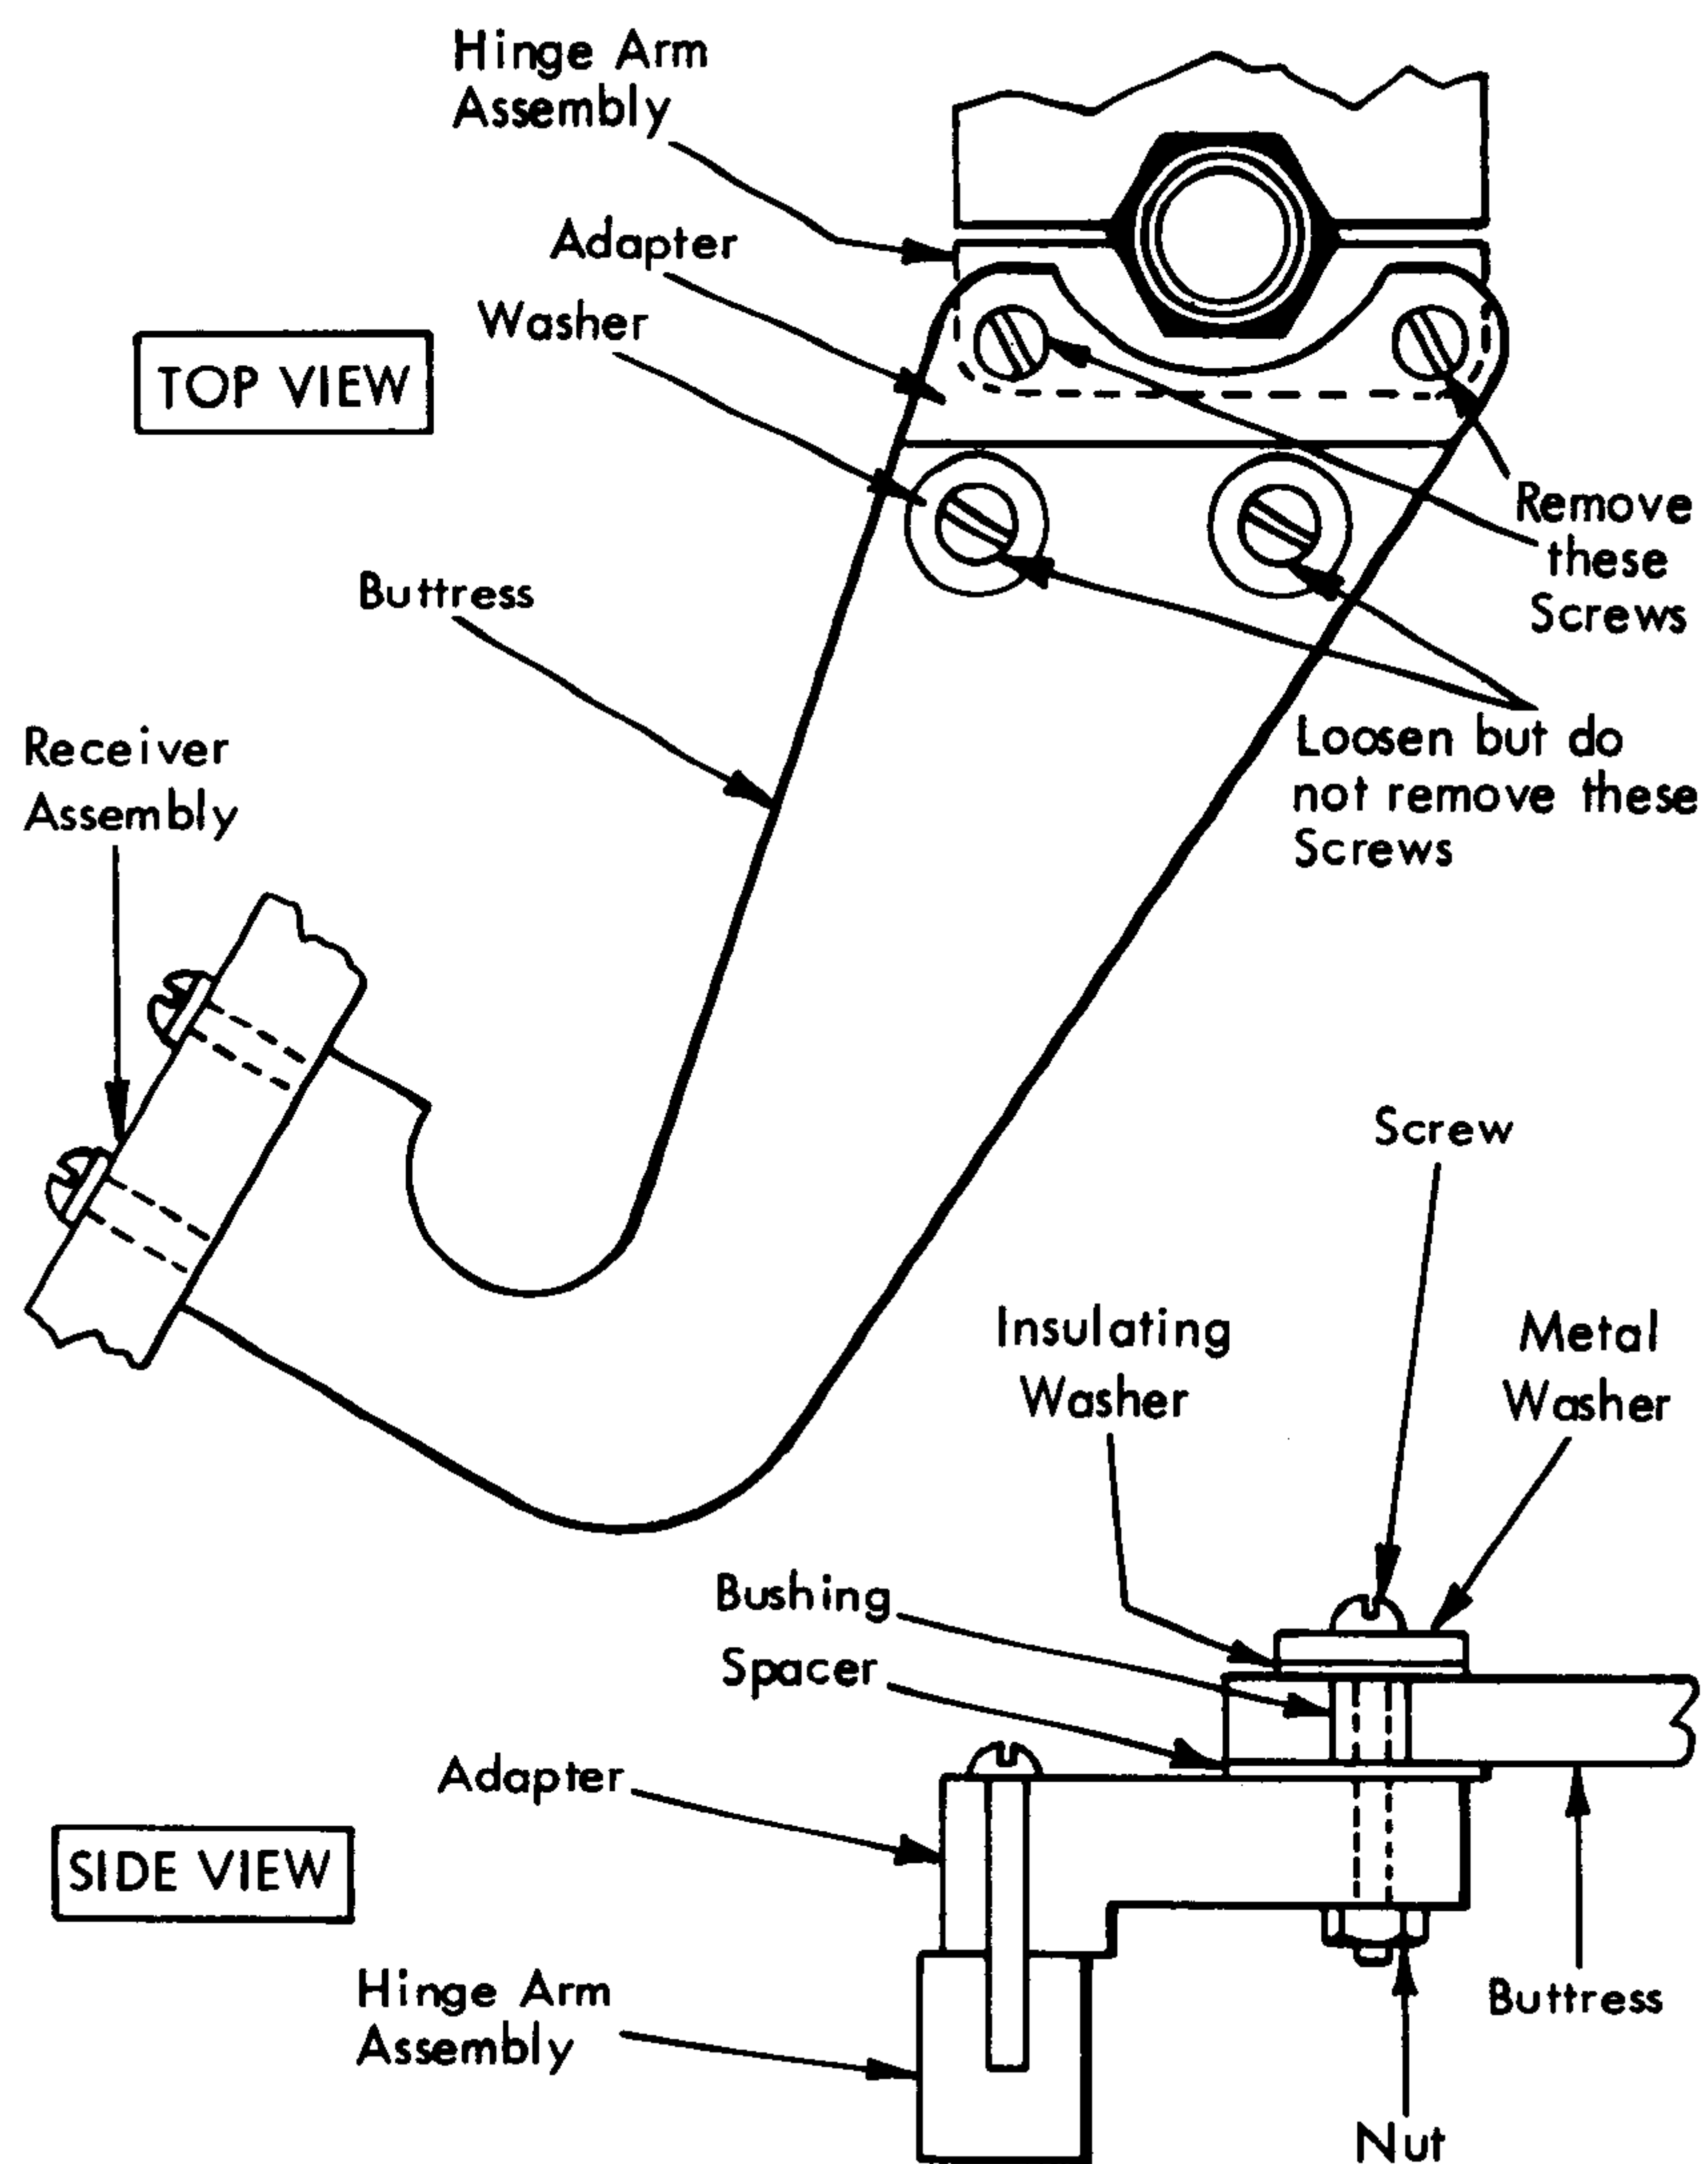

Figure 2-19. Buttruss and Adapter Assembly
3. Loosen but do not remove the screws and nuts that secure adapter to buttress (top and bottom buttress) (Figure 2-19).
4. Remove screws that retain adapter on hinge arm assembly (top and bottom hinge arm) (Figure 2-19).
nuts that secure adapter to buttruss (top and bottom buttruss assemblies) (Figure 2-19).